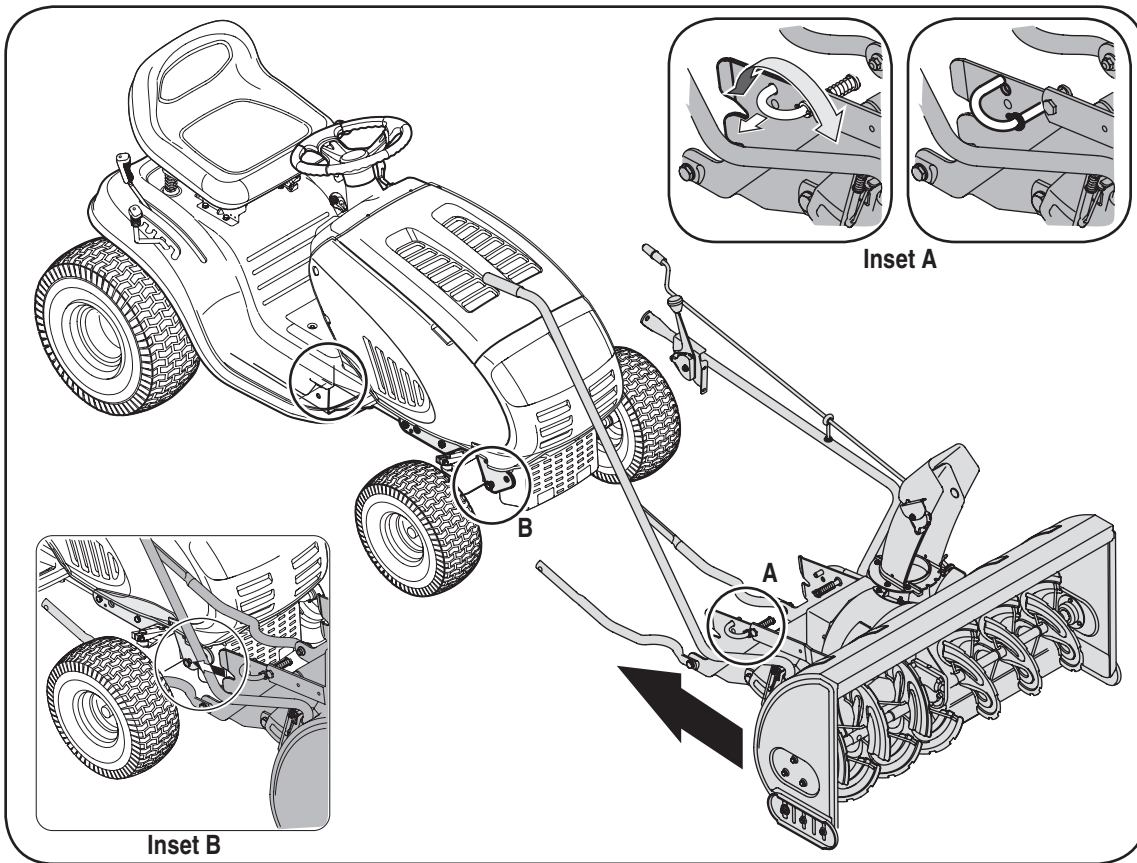

Figure 27
2. Pull the support pin on the right side of the upper lift link outward and rotate it forward so it remains in the "out" position. See Figure 27 Inset A.
5. With the help of an assistant, lift up the auger housing up and move the attachment back aligning the hooks found on the rear of the lift assembly over the shoulder bolts found on both the left and the right sides of the tractor's front pivot support brackets. See Figure 27 Inset B.